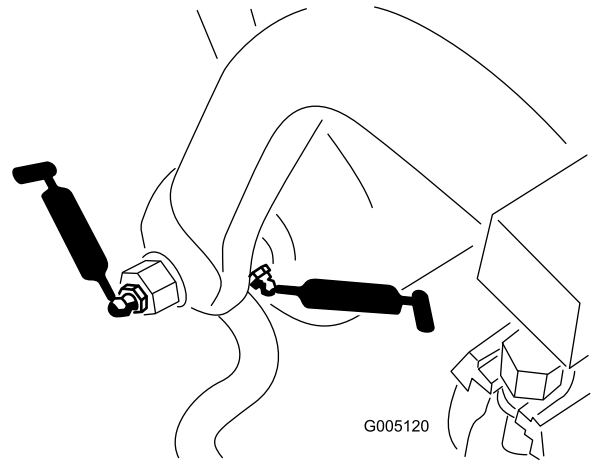

Figure 41
- Pull frame shaft and roller (12) (Figure 41)